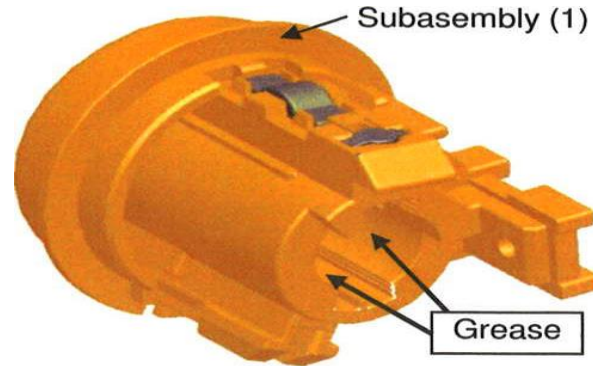

Figure 4
4) Apply grease to the inner surface of the housing subassembly (1) as shown in figure 4 below.